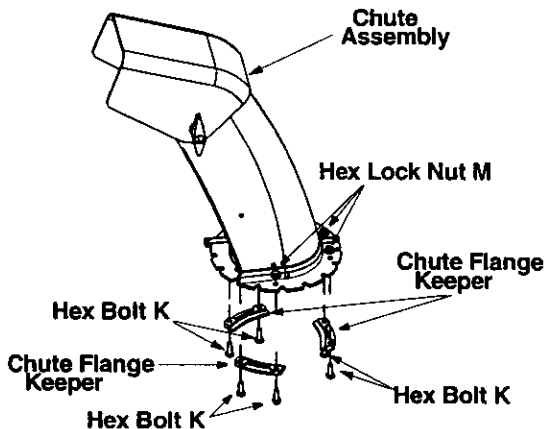

Figure 8
- Place chute flange keepers beneath lip of chute assembly, with the flat side of chute flange keeper facing downward. See Figure 8.
- Insert two hex bolts (K) up through each chute flange keeper and chute assembly as shown in Figure 8. Secure with hex lock nuts (M). After assembling all three chute flange keepers, tighten all nuts and bolts securely. Do not over-tighten.